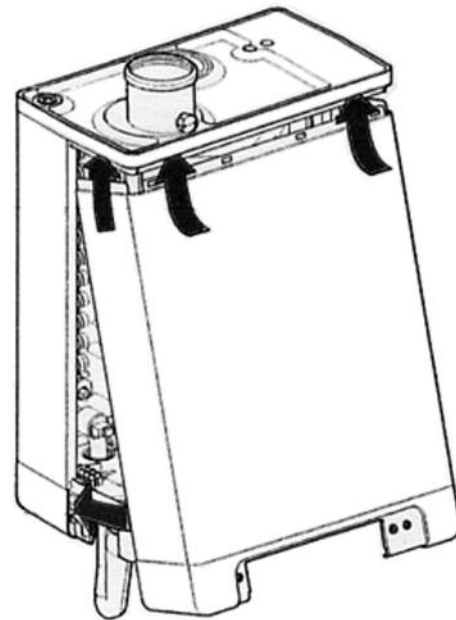

Fig. 6: Installation of front panel
11. Mount the front jacket panel by engaging the top of the panel into the top jacket panel (Fig. 6).